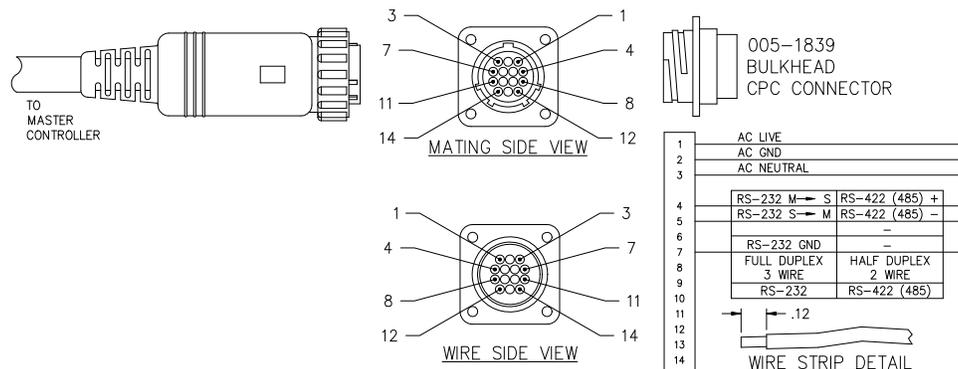

Figure 4 Bulkhead CPC connector wiring
2. Use pins 005-0239 to wire the connector to system telemetry/comms and to 90-240 VAC power as shown in Figure 4.